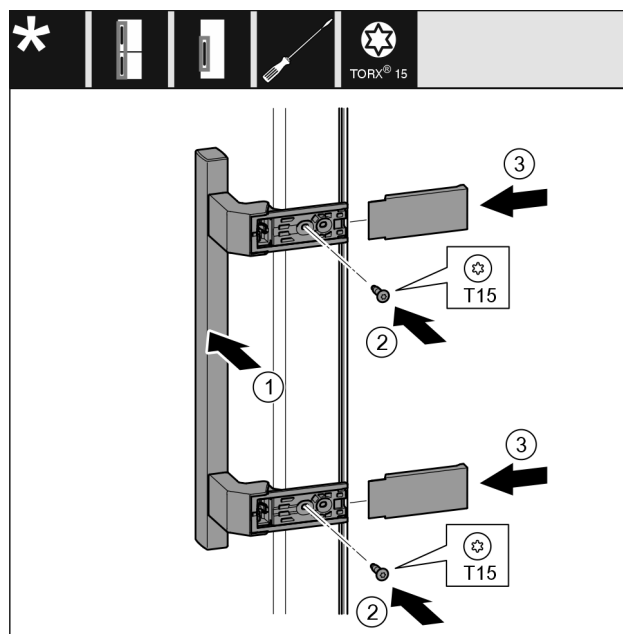

Fig. 22
- Place the handle Fig. 22 (1) on the opposite side.
- Tighten screws Fig. 22 (2) with screwdriver.
- Place the covers Fig. 22 (3) on the side and push them on.